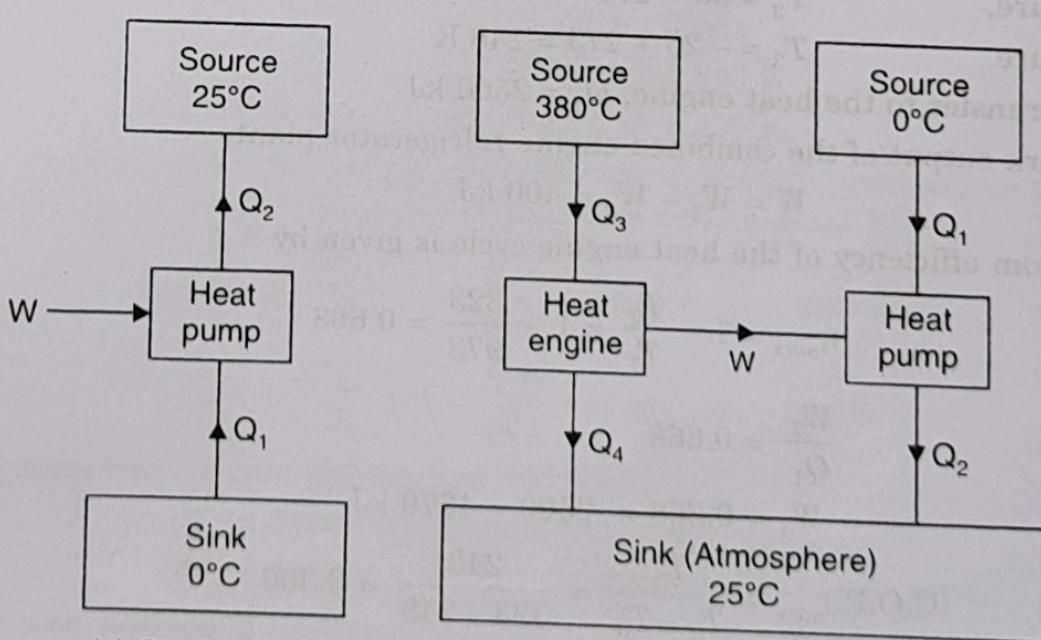

Fig. 15
**Solution.** Refer Fig. 15 (a).
(ii) Refer Fig. 15 (b).